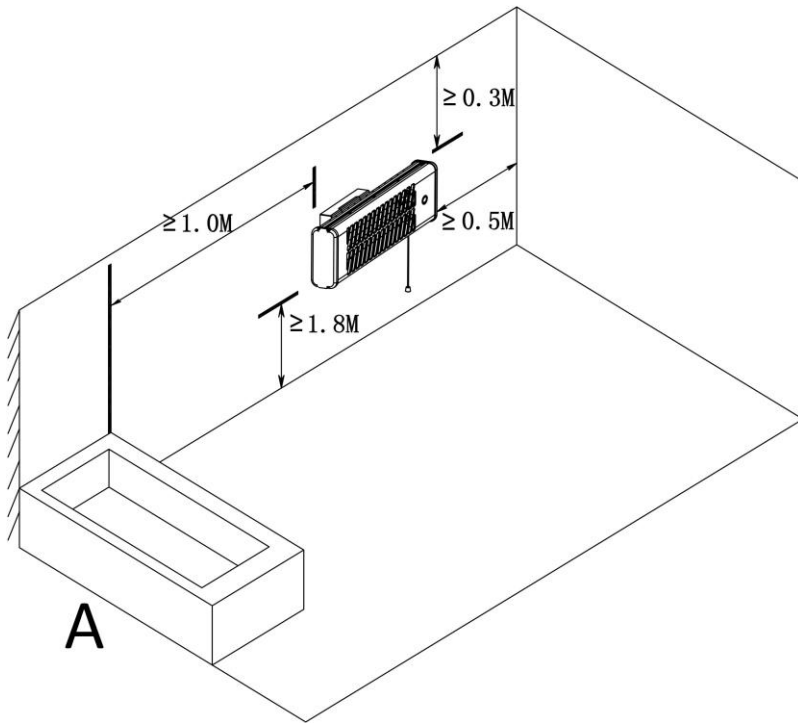
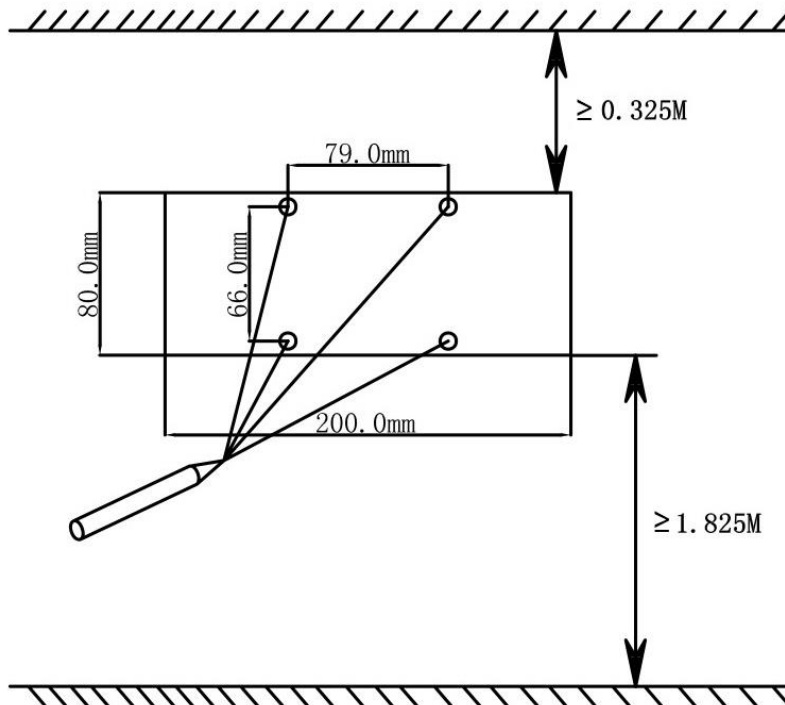

Fig.3
Fig.4
20. Keep safe distances according to European standards and national regulations indicated in Fig. 3.
2. The quartz heater must be installed at a horizontal position only. Do not install at the ceiling or vertically. During installation respect the minimum distances indicated in Fig. 3. The heater must be mounted at least 1800mm above the floor, 300mm under the ceiling and 500mm away from side wall(s).
- Find the most appropriate position so as not to block access to the pull switch cord and the switch, at all times respecting the safety distances indicated in Fig. 3. Mark the holes for mounting on the wall where the heater is to be installed. Take the measure on Fig. 4 as reference. Mark a cross in the center of the hole for more precise drilling. (See Fig. 4)